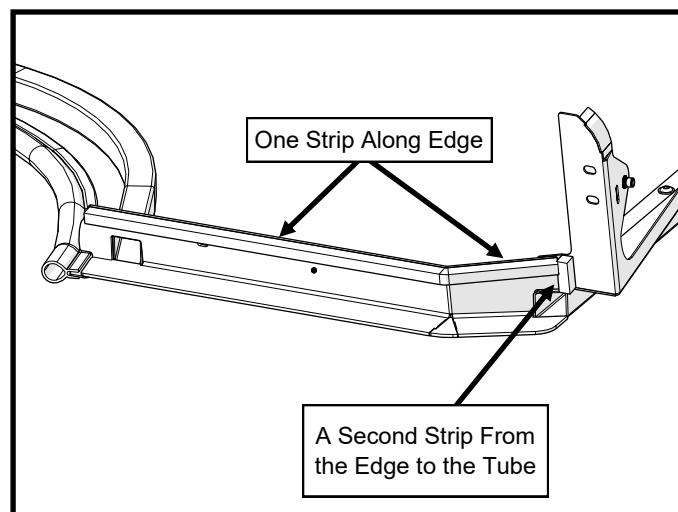

Figure 24: Install Foam Gasket
24. Locate the left sideframe and install the supplied foam gasket along the bottom of the floorboard as shown in figure 24.